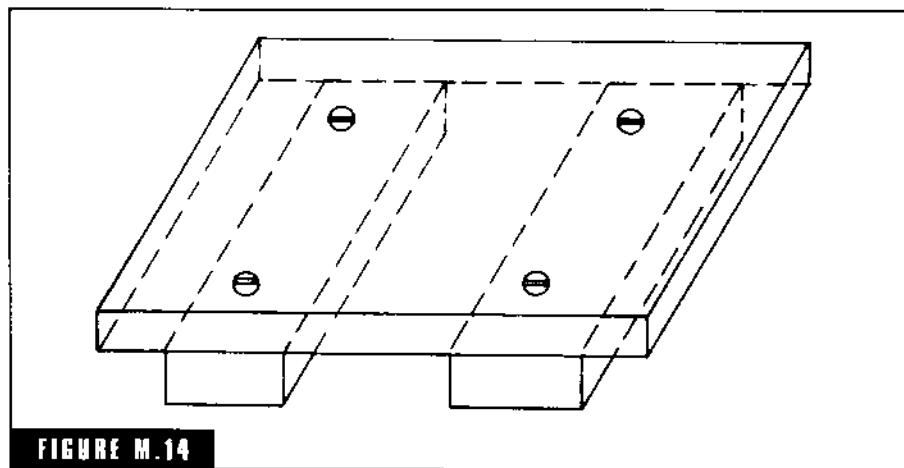

FIGURE M.14
**molding board** The molding board is a smooth board on which to rest the pattern and flask when starting to make a mold (Fig. M-14). The board should be as large as the outside of the flask and stiff enough to support the sand and pattern without springing when the sand is rammed. One is needed for each size of flask. Suitable cleats are nailed to the underside of the board. Their purpose is to stiffen the board and to raise it from the bench or floor to allow you to get your fingers under the board to roll over the mold.